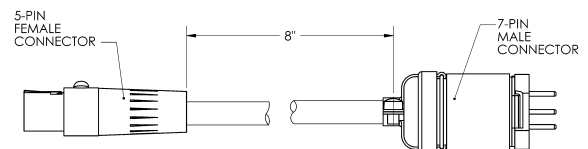

Figure 4
- 5-pin female to 7-pin male adapter (501A-S7) included to interface with VCM/VMM controllers (see figure 4).
Figure 4 illustrates 501A-S7 adapter included with the CS35 to allow connection to VCM/VMM type controllers